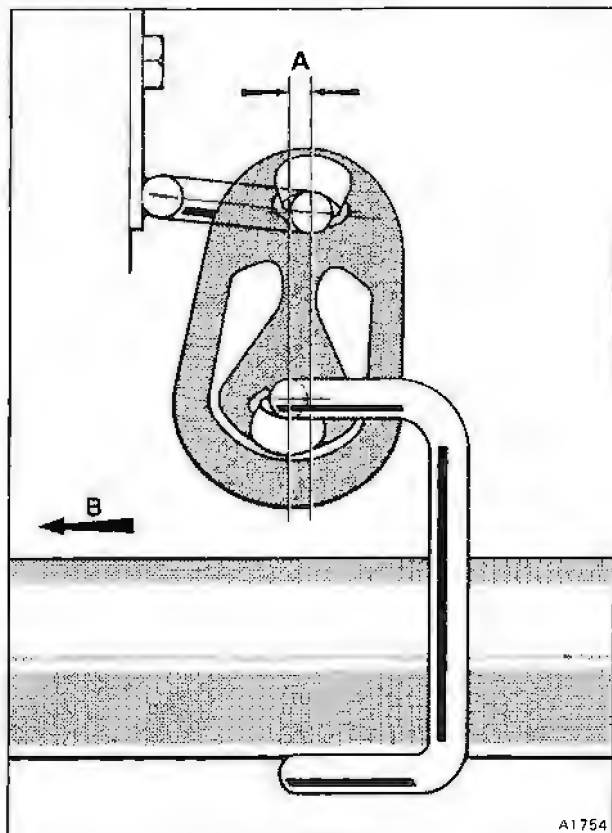

Fig. Q4-4 Exhaust mount offset
2. When setting clearances, ensure that the mounts are set 6 mm (0.236 in) forward of the mounting bracket to allow for expansion of the system (see fig. Q4-4).